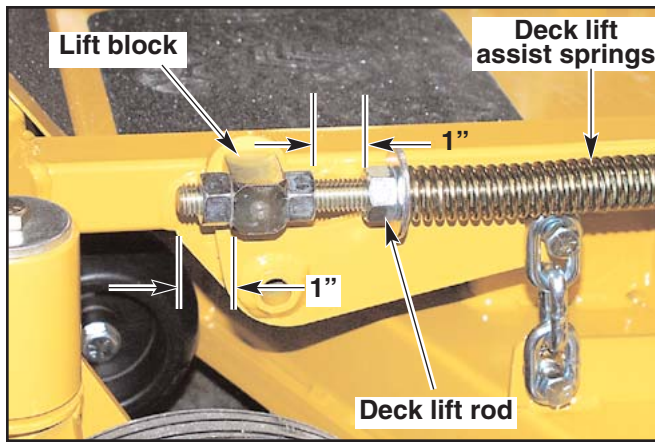

Figure 9-40
9. Set the amount of threads protruding on the deck lift rod from the lift block at approximately 1". Fig. 9-40
27. Compress the deck lift assist springs so that there is 1" of space between the front nut on the spring and the rear nut on the deck lift block (Fig. 9-40). Typical both sides.